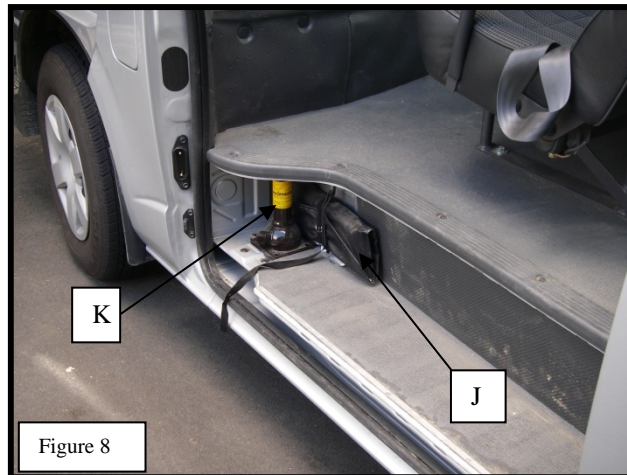

Figure 8
- The vehicle tool bag (J) and jack (K) are located on the foot-board of the rear side-door, on the passenger side of the van (Figure 8).